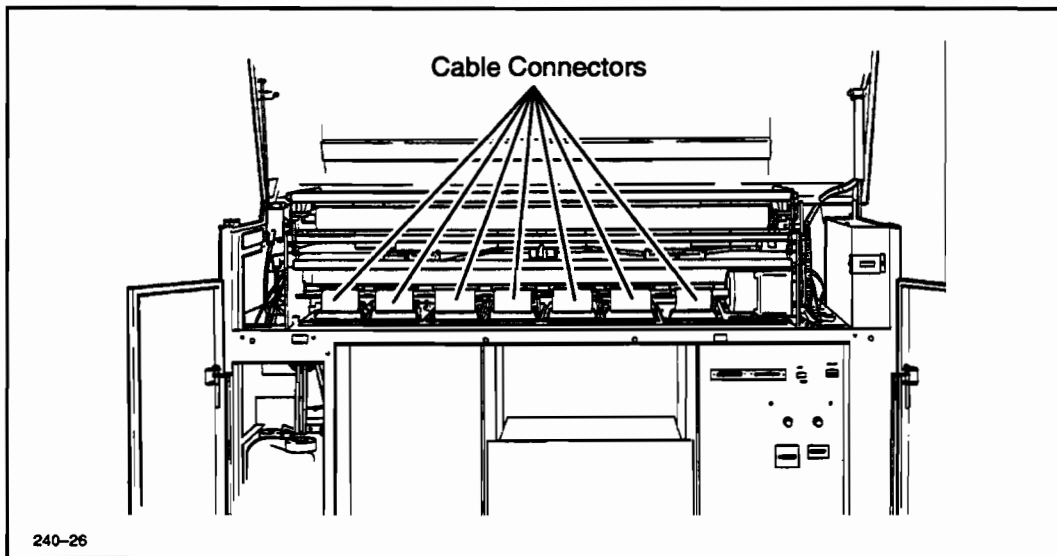

Figure 6-35. PED and CED PCA Front Connectors
7. Reach through the front opening and disconnect PDCN4 and PDCN5 at the front edge of the selected PCA. See Figure 6-35.